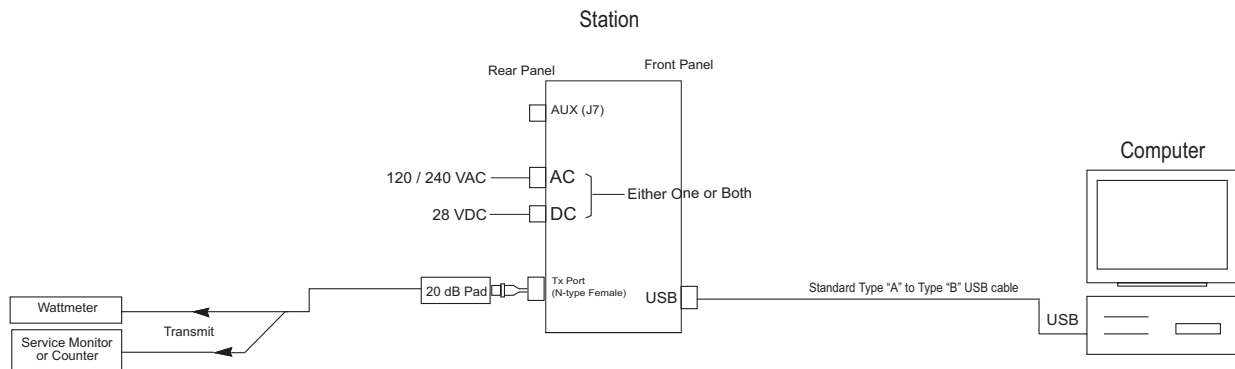

Figure 12-4. Base Station/Repeater Tuning Equipment Setup
A personal computer (PC), Windows™ operating system, and the MOTOTRBO Tuner application are required to tune the Station. To perform the tuning procedures, the base station/repeater must be connected to the PC and test equipment setup as shown in Figure 12-4.